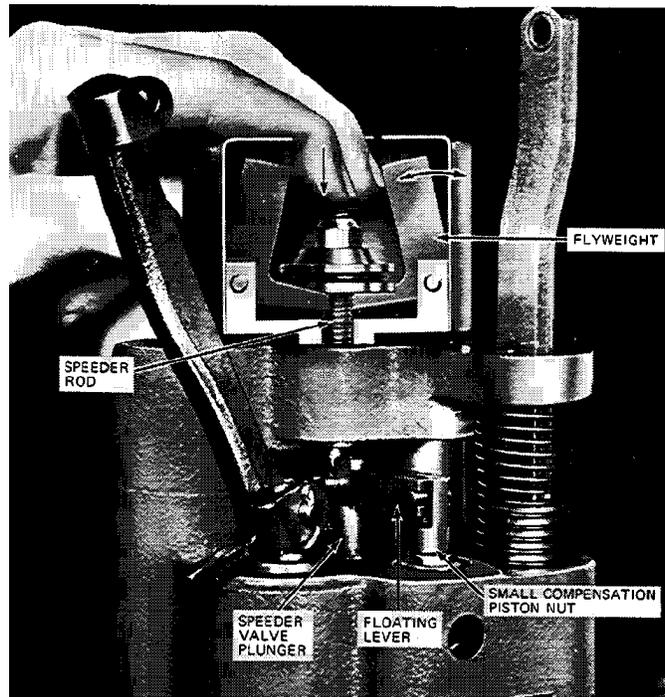

Figure 5-7. First Check for Binding of Floating Lever
2. Insert pin (305) connecting the floating lever to the speeder valve plunger. If the pin will not enter easily, remove the lever and turn the speeder valve plunger 180°. Reinstall the lever and insert the pin. Do not install the cotter pin at this time.
- a. Push lightly downward on top of the speeder rod with a finger tip while moving one of the flyweights through its full travel several times (see Figure 5-7). The floating lever should move smoothly with no evidence of sticking or binding.